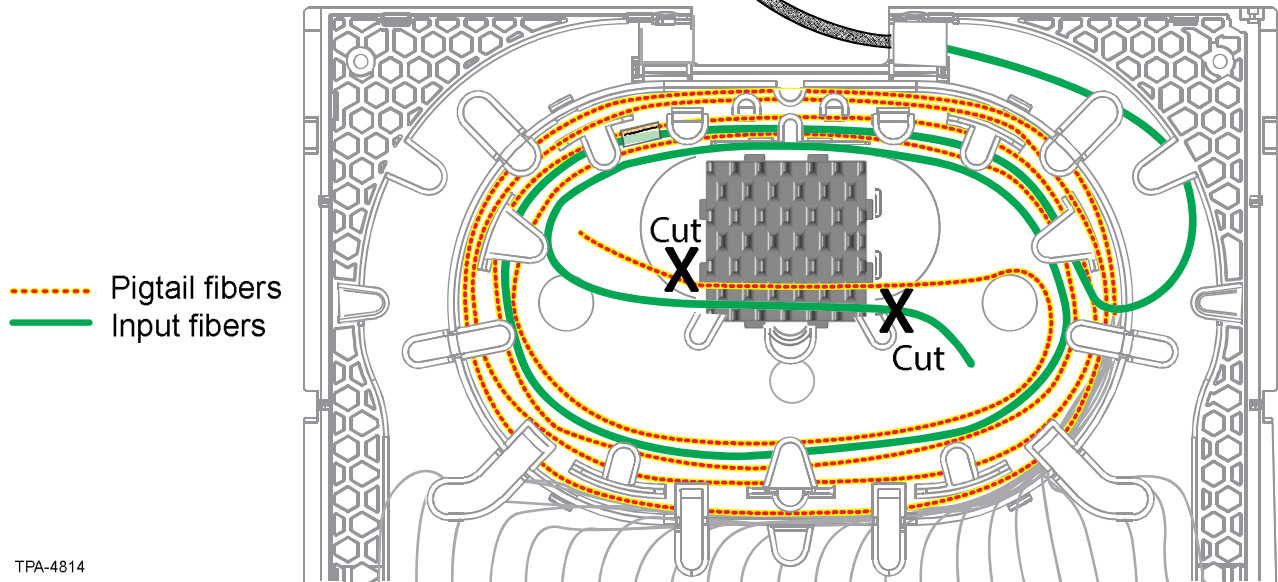

Figure 56
- Step 13: Bring input fibers into the splice organizer on one side of the organizer (Figure 56).
- Step 16: Cut the ribbon fibers at the outer edge of the splice organizer (Figure 56).